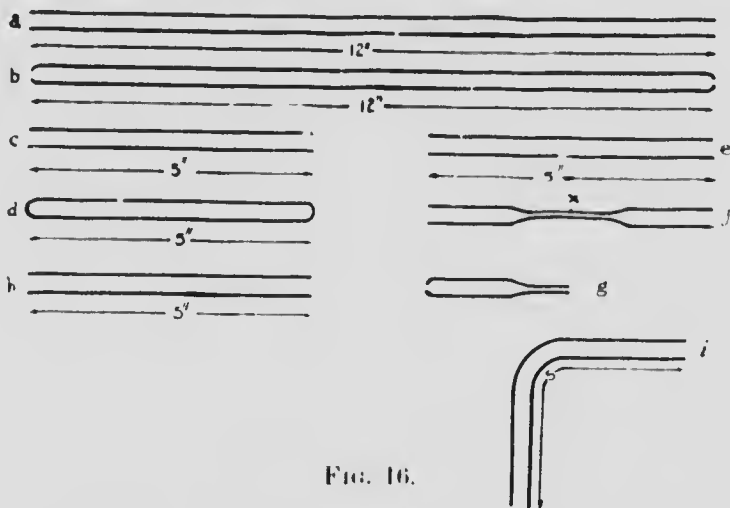
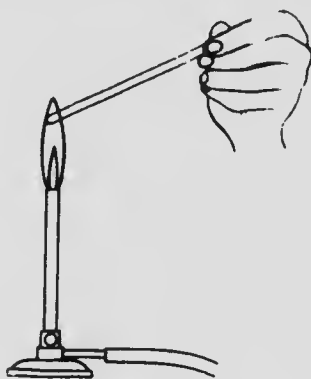
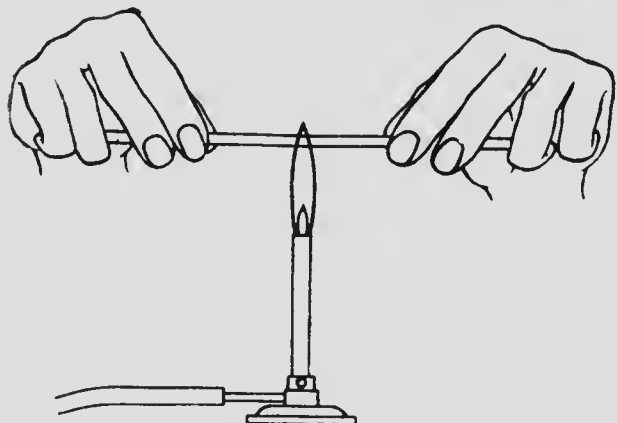
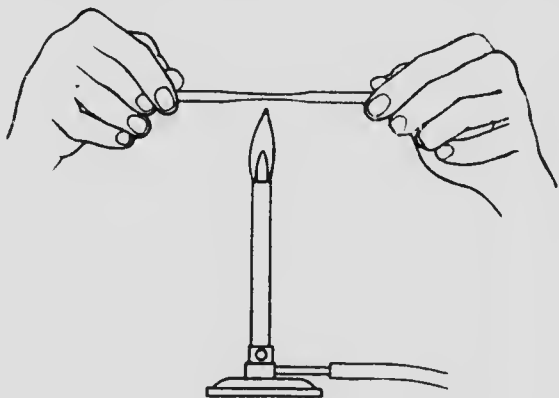

FIG. 16.
FIG. 18.
FIG. 19.
FIG. 20.
2. **Glass Tubing.**—It is important that the glass tubing be worked to the shape and dimensions given on Fig. 16, for the pieces are used in future experiments.
(b) *Rounding.*—Fire-polishing.—Round the sharp corners of a piece of glass tube 12" long (Fig. 16, a) by holding it in the Bunsen flame (Fig. 18), until the edges
soften and just begin to round themselves off. **The tube must be revolved all the time it is being heated.** In this way Fig. 16, b is made. The ends of all glass tubing must be rounded before joining up to rubber tubing or being placed in rubber corks.
(c) *Stirring Rods.*—Cut a piece of glass tubing 5" long (Fig. 16, c). Completely close each end by heating
as in Fig. 18, revolving all the time. A stirring rod (Fig. 16, d) will result. (d) *Drawing a Jet.* Heat a short piece of glass tubing 5" long (Fig. 16, e) in the Bunsen flame, as shown in Fig. 19, until quite soft; revolve the tube while heating; remove from the flame and draw out as shown in Fig. 20. Cut at X (Fig. 16, f) and you have two jets (Fig. 16, g). Round (do not close) both ends of the jets. The small opening should be about 1 mm. in diameter.
(e) *Bending.*—Place a wing top on the Bunsen burner and light the burner. Hold a piece of glass tubing 5" long, (Fig. 16, h), parallel to the wing top
In this way Fig. 16, i is obtained, and it is called an elbow. Round the ends slightly.